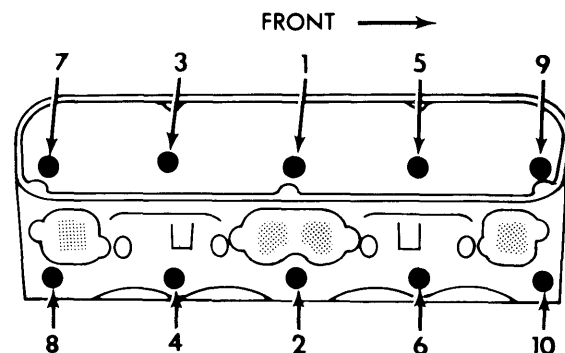

Fig. 2 Cylinder Head Tightening Sequence
**Installation** — Clean all gasket surfaces of cylinder block and head. Coat new gasket with suitable sealer. Install gasket and cylinder head on cylinder block. Install cylinder head bolts and tighten to specifications in two steps. Use tightening sequence shown in Fig. 2.